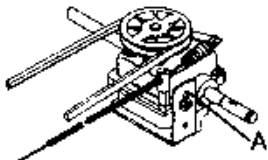

Figure 10 - Belt Adjustment
4.2 Drive Belt Adjustment (Refer Fig. 10)